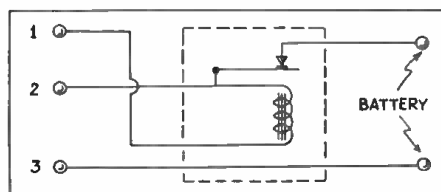

Fig. 1, above; Fig. 2, right
- One Signal, type R-60 high-frequency buzzer (assembled as described; see Fig. 1);